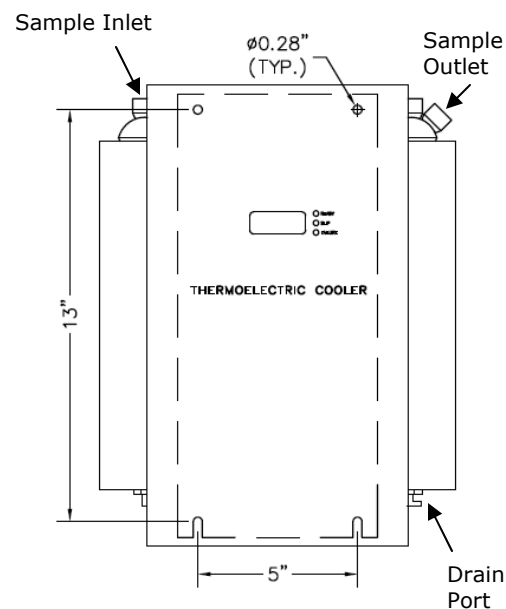

Figure 1 - Model 8210 Cooler
1. Connect the sample inlet to the 3/8" tube fitting shown in figure 1.
2. Connect the sample outlet to the 1/4" tube fitting shown in figure 1.
3. Connect the peristaltic pumps to the 1/4" barbed tube fittings shown in figure 1.